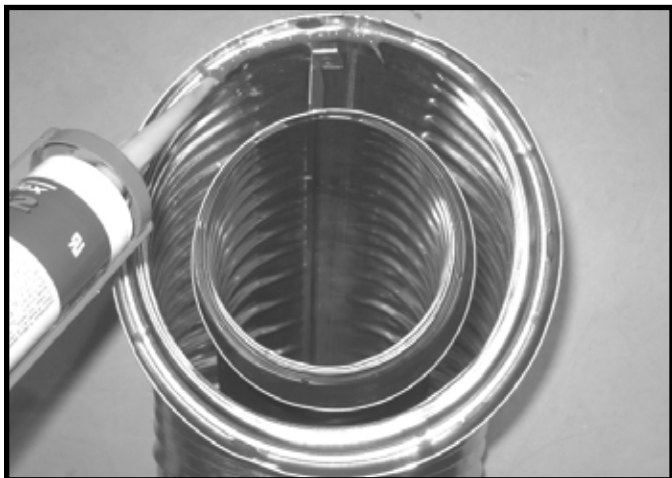

Figure 2.1 High Temperature Silicone Sealant
- Apply a bead of silicone sealant inside the female outer pipe joint prior to joining sections. See Figure 2.1.